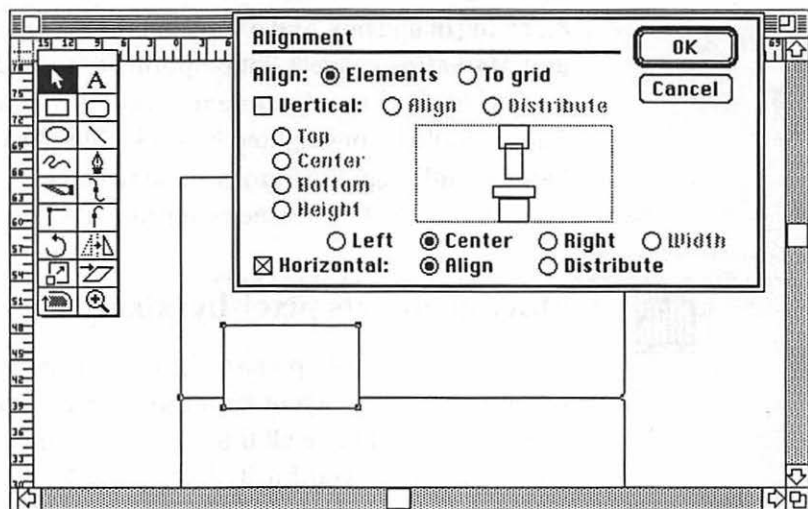

FIGURE 3-11 To center an object on the page in **FreeHand**, use the Alignment command to center both the object and a line that spans the page.
3. Choose the ALIGNMENT command from the Element menu (or press Command + I). In the Alignment dialog box, turn on the *Horizontal* and *Center* options (Figure 3-11) and click the OK